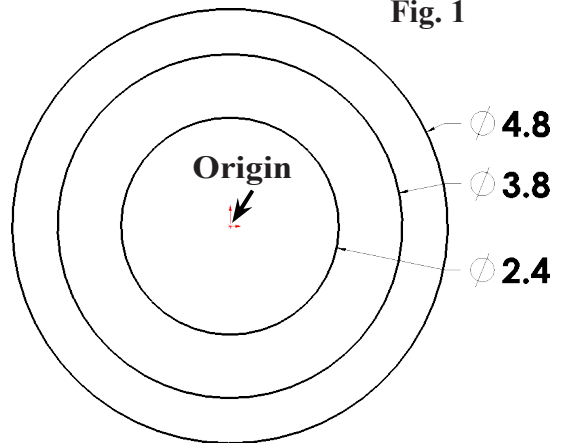

Fig. 2
Step 3. Click **Circle** (S) on the Sketch toolbar.
Step 4. Sketch **three circles** coincident at Origin , **Fig. 2**.
Step 5. Click **Smart Dimension** (S) on the Sketch toolbar.
Step 6. Dimension diameters, **Fig. 2**.